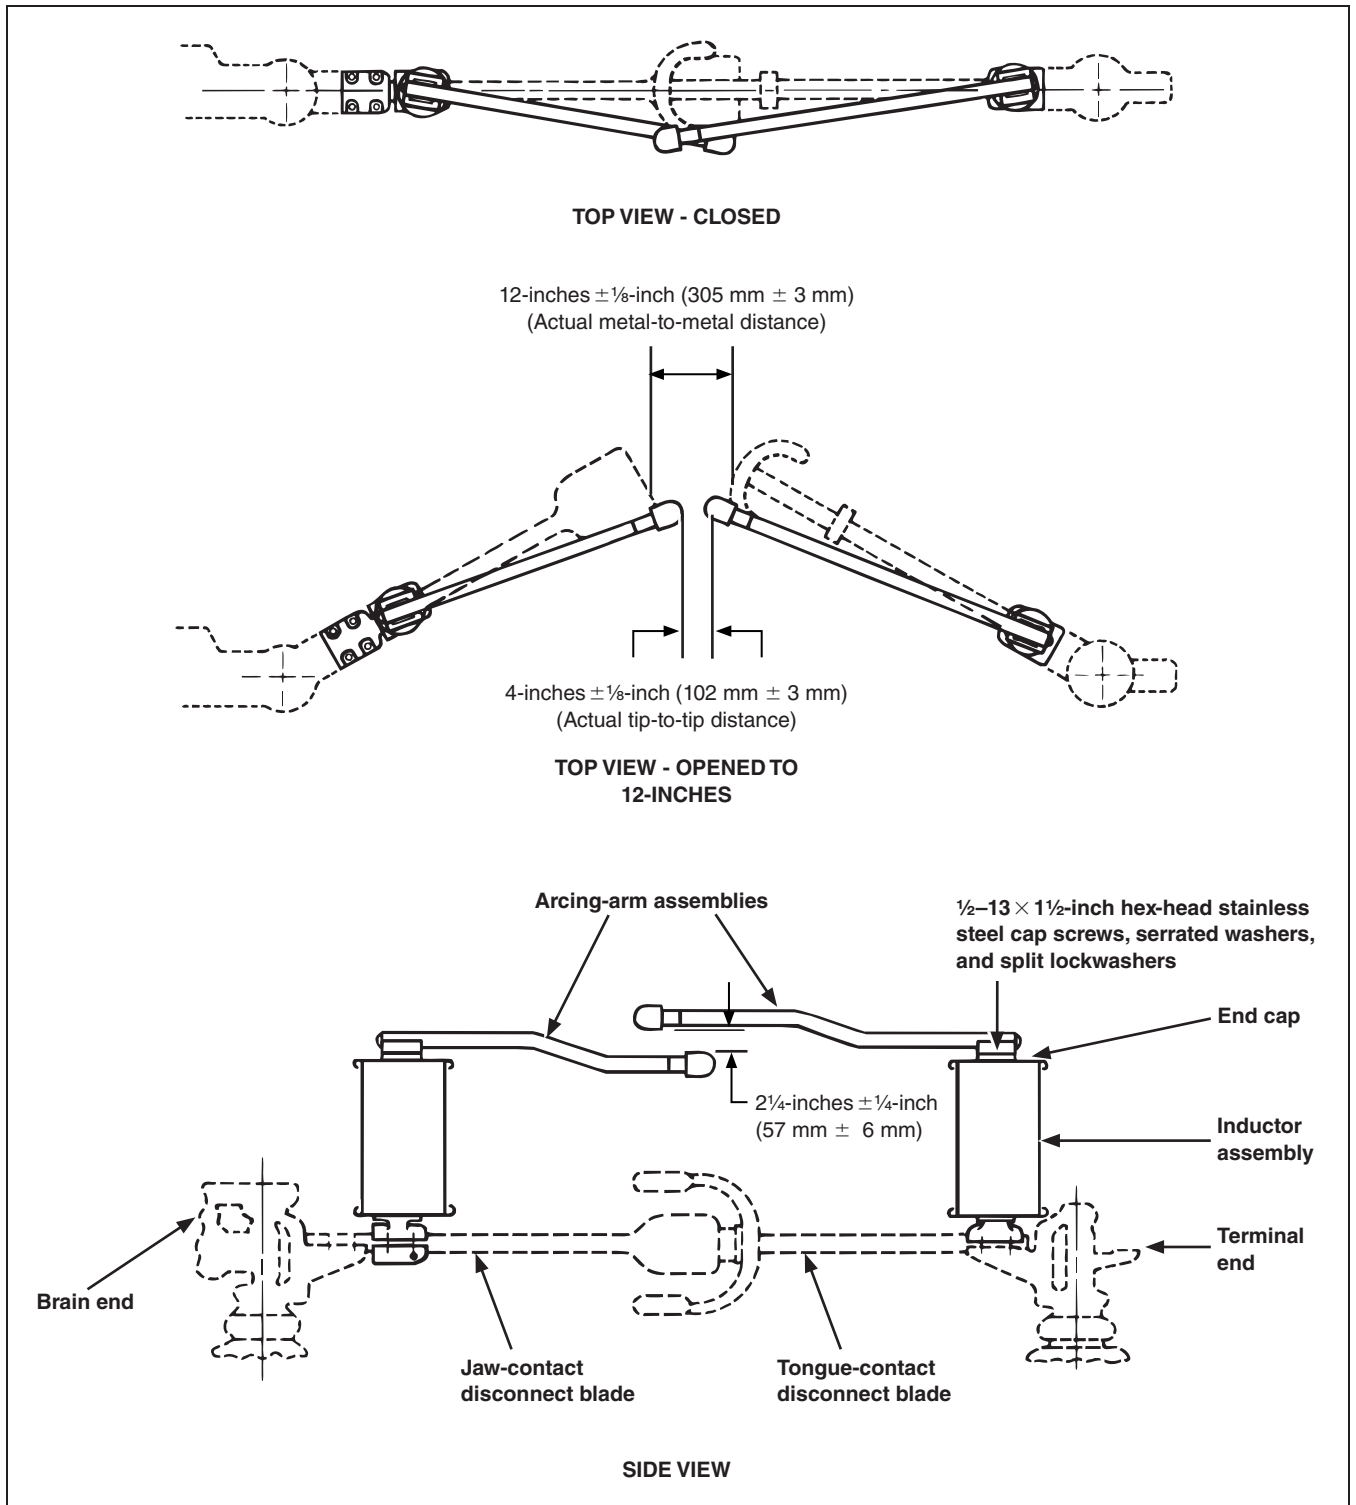

Figure 6. Assembly detail of standard-duty pre-insertion inductors for center-break style circuit-switchers.
STEP 1. Manually open the circuit-switcher to the point where the arcing-arm tips are aligned vertically, i.e., tip over tip. See top view, closed in Figure 6 on page 15. At this point of minimum separation, adjust the arms to obtain a clearance of $2\frac{1}{4} \pm \frac{1}{4}$ inches, as shown in side view in Figure 6 on page 15. Use the wooden block furnished as a gauge. If necessary, use the special shims (furnished) between the arcing-arm assemblies and the inductor assemblies to attain this clearance.
Continue opening the circuit-switcher until reaching the point where the metal-to-metal separation between the disconnect blades is $12 \pm \frac{1}{8}$ inches (305 ± 3 mm), as shown in top view, opened in Figure 6 on page 15. Again, use the wooden block furnished as a gauge. Then, while maintaining this disconnect-blade positioning, loosen the four $\frac{1}{2}$ - $13 \times 1\frac{1}{2}$ -inch hex-head stainless steel cap screws which secure each arcing-arm assembly and adjust the angle of both arcing arms by equal amounts to obtain a separation of $4 \pm \frac{1}{8}$ inches (102 ± 3 mm), as shown in top view opened in Figure 6 on page 15. Once again, use the wooden block furnished as a gauge.